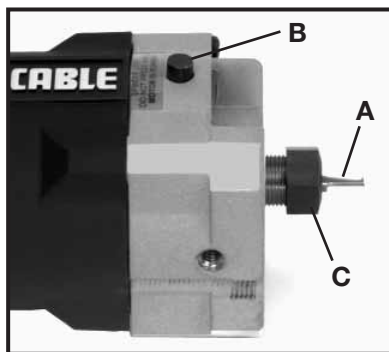

Fig. 14
1. Clean and insert shank of bit (A) Fig. 14, into collet until end of shank
2. Depress spindle lock (B) Fig. 14, and rotate collet nut (C) clockwise by hand until lock engages hole in motor spindle.